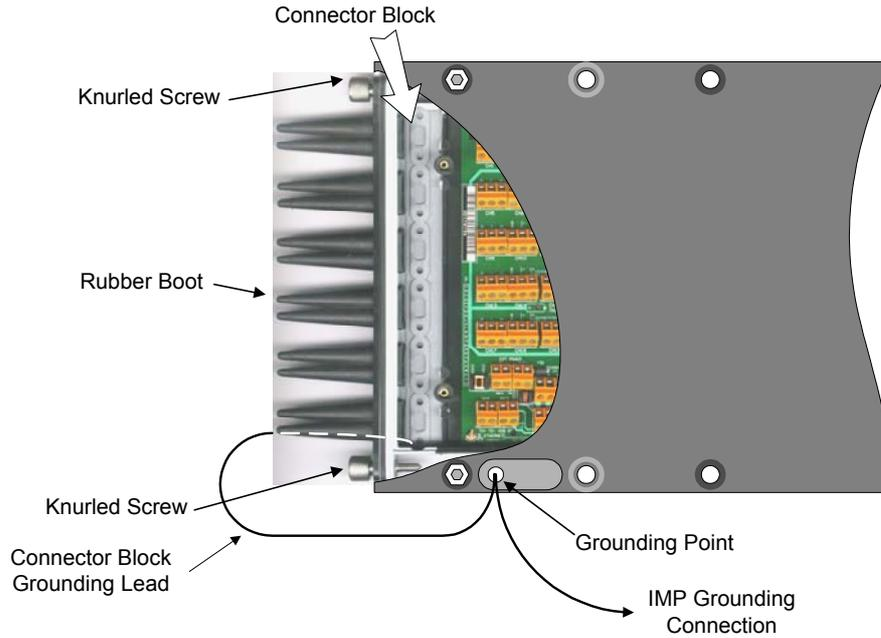

Figure 2-1 The 5000 13L IMP connector block, inserted into the main IMP housing.
Figure 2-1 The 5000 13L IMP connector block, inserted into the main IMP housing.	2-5
All connections to the IMP are made via a connector block which is inserted into the housing. (See Figure 2.1.) There are the PC-IMP interface connections, 20 multi-function (analogue/status) input channels and the power connections. To obtain an actual measurement, we suggest you connect a low voltage source –for example a battery– to channel 1. The procedure for this is described in Section 2.3.1 below.
13. Fit the 'receptacle faston' to the end of the ground lead protruding from the connector block. Then connect the receptacle to the grounding point on the IMP case. (See Figure 2.1.)